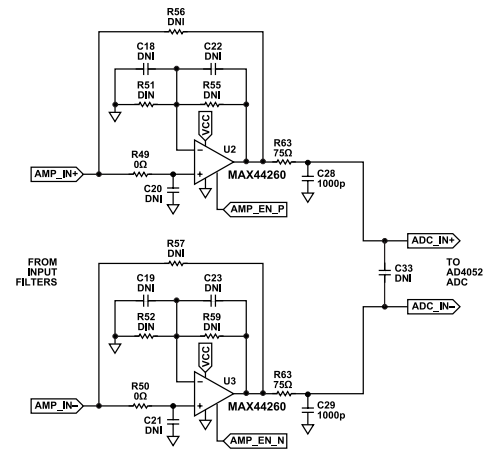

Figure 12. Default Amplifier Circuit Simplified Schematics
- ▶ MAX44260 op amps in 6-lead SC70 footprint configured as unity-gain buffers by default (see Figure 12)